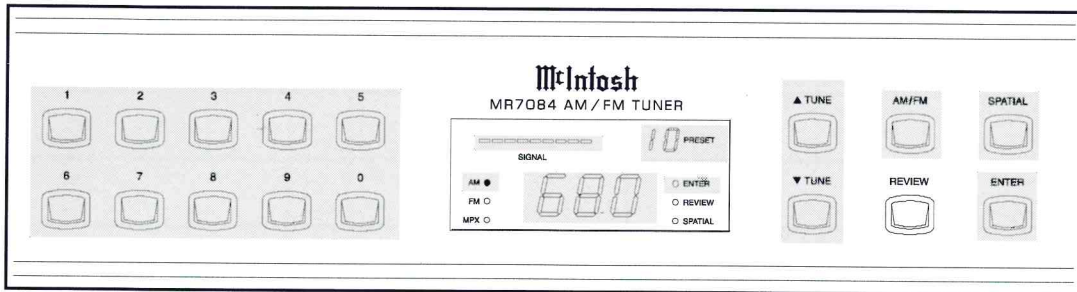

Figure 2
1. Select the AM broadcast band. Refer to figure 2.